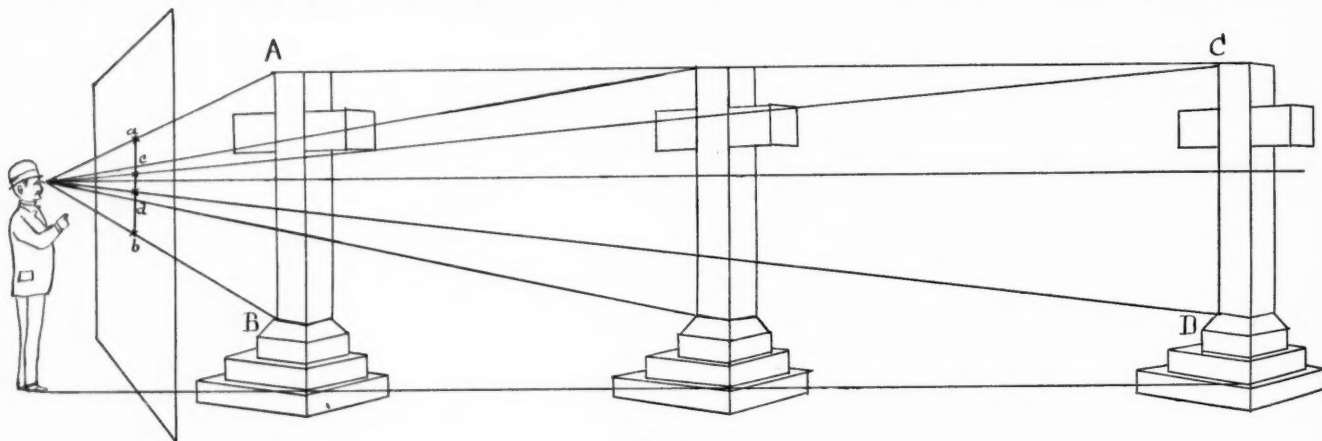

FIG. 99.
75. In Fig. 26 the observer occupies three successive stand-points relatively to a stationary object; in Fig. 99 the same object stands in different positions while the observer is stationary. In both cases it will be seen that the visual angle diminishes alike as the distance from eye to object increases, and that the visual ray from the top of the object is highest when the object is nearest the eye (or the eye is the nearest the object, as in Fig. 26), while the visual ray from the same point is lowest when the object is most remote. This is why the near object seems highest and the distant one lowest; the eye estimates its altitude by the elevation or depression of the visual ray from it.
Likewise for points below the eye: their relative positions also are estimated by the direction of the visual ray. This ray is lowest from the base of the nearest object (Fig. 99), and highest from the base of the farthest one, hence the former appears to the eye decidedly lower than the other. In other words, the visual ray